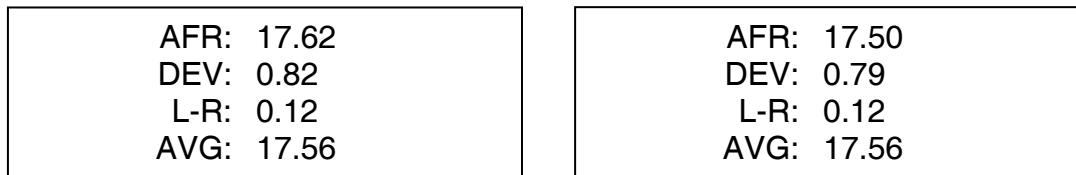

Figure 1: AFRecorder Displays During Measurement
3. After the countdown has completed, the AFRecorder begins the measurement and display of Air-to-Fuel Ratio (AFR), Average Deviation of AFR (DEV), Left minus Right Sensor AFR (L-R), and Average AFR of both sensors (AVG). The left AFR sensor's values are displayed on the left display and the right AFR sensor's values are displayed on the right display. Depending on prior programming (see **Setup - Display** on page 17), the AFRecorder may enlarge one of these parameters on each display. Figure 1 shows the AFRecorder's displays during measurement.